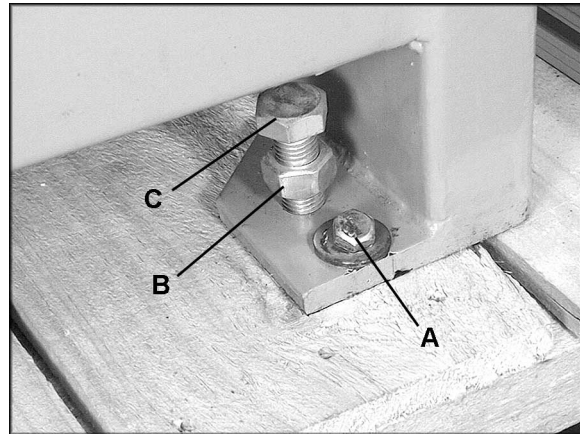

Figure 1
Remove the screws and washers that are holding the machine to the pallet (A, Figure 1) with a 14mm (or 9/16") wrench. Use a forklift to lift the machine off the pallet. Place the forks under the bottom of the machine.
With the machine resting on the floor, place a bubble level on the table top. If the machine is not level, use one or more of the leveling screws, shown in Figure 1, to make this adjustment.
2. Loosen the hex nut (B, Figure 1) with the provided 24mm wrench.
3. Rotate the screw (C, Figure 1) to raise or lower it as needed.
4. Tighten the hex nut (B, Figure 1) down against the machine's foot pad, to hold the setting of the screw.